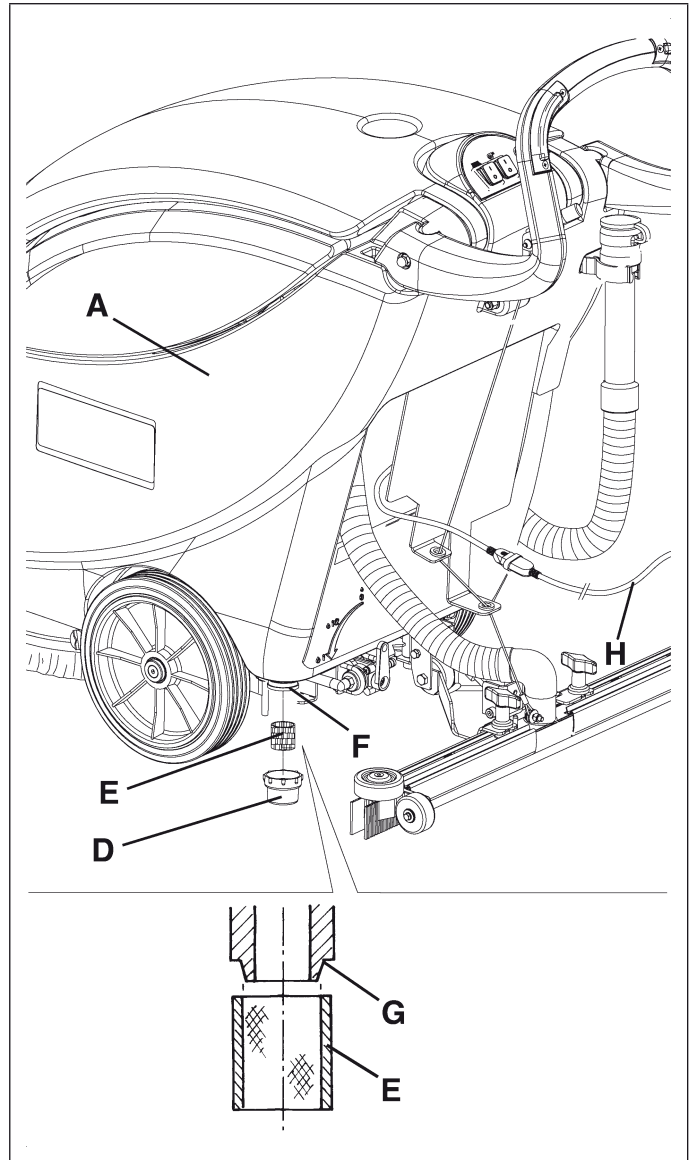

Figure 20
1. Empty the solution tank (A, Fig. 20) according to the procedure shown in the relevant paragraph.
2. Make sure that the power supply cable (H, Fig. 20) is disconnected from the electrical mains.
4. Remove the transparent cover (D, Fig. 20) and the filter strainer (E), then clean and reinstall them on the support (F).
Properly install the strainer (E, Fig. 20) in the housing (G) of the support (F).